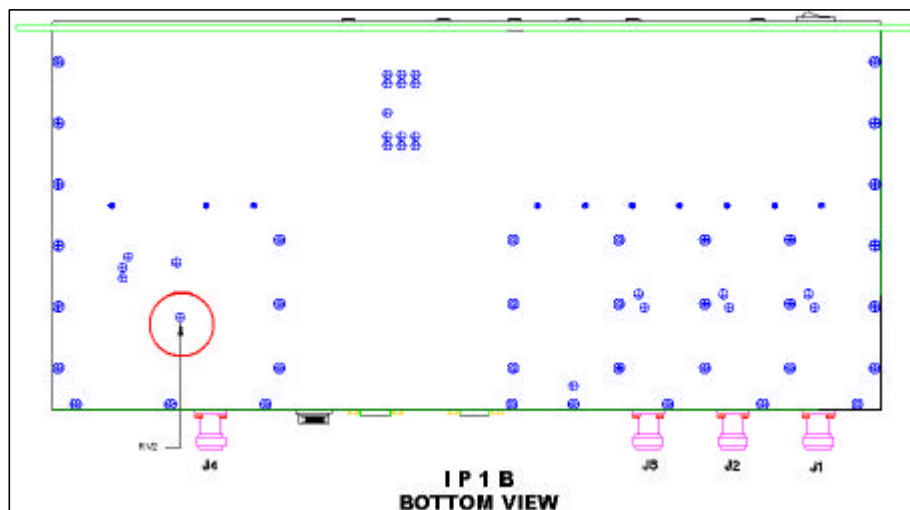

Figure 8: Power Adjustment Potentiometer Location for the IP1B
The base station power is adjusted mechanically by tuning a potentiometer (pot) on the bottom of the base station. Depending upon the model, this pot can be reached through an access hole in the bottom cover on either the exciter board or power amplifier board. Figures 8, 9, and 10 display the Power Adjustment Potentiometer location for the IP1B, IP4B, and the IP8B.
Step 3 Locate the adjustment hole (see Figures 8, 9, or 10 according to the model being used).